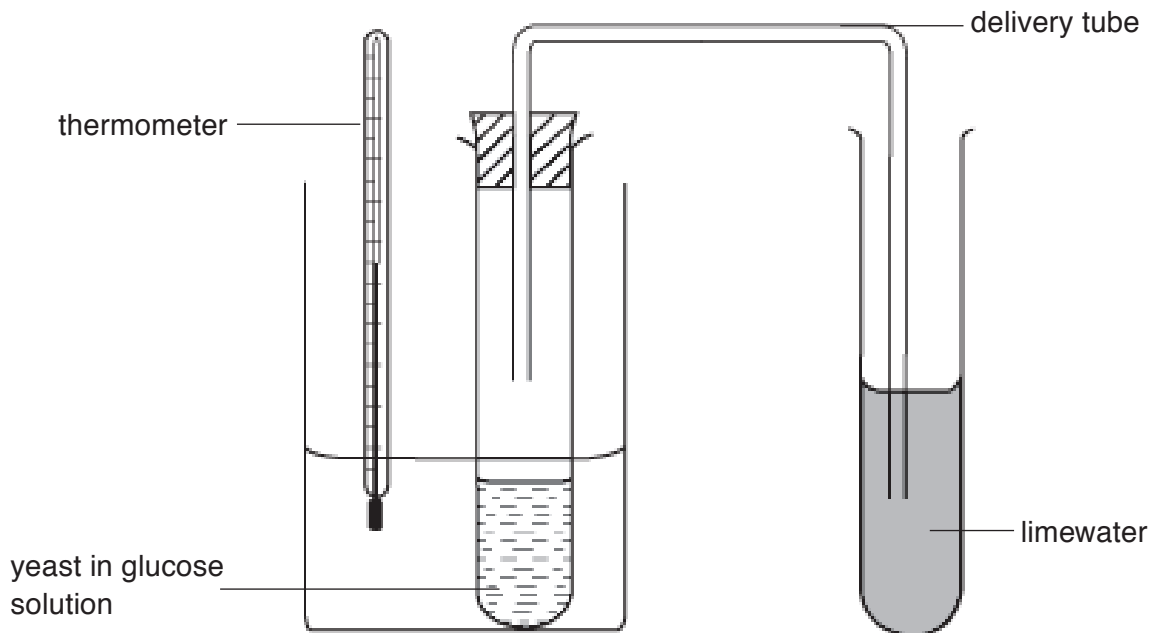

Fig. 2.1
- 2 Fig. 2.1 shows an investigation that was carried out to count the number of bubbles of gas produced per unit time by yeast.
- 2 The apparatus was set up as shown in Fig. 2.1.
(vi) Describe how you would modify the investigation in Fig. 2.1 to find out if glucose is necessary for the change in the limewater.